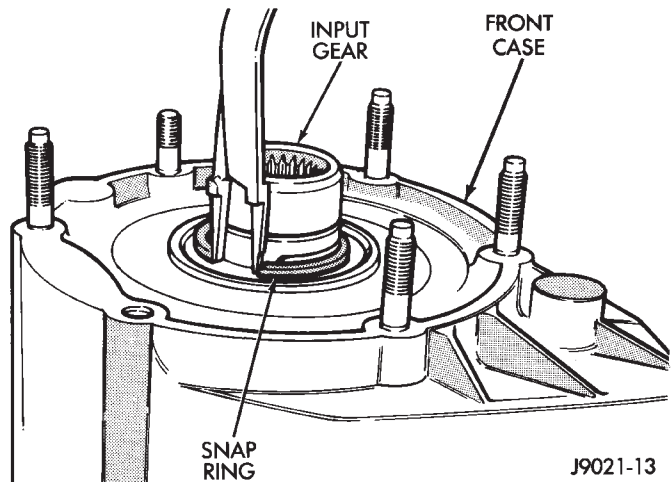

Fig. 24 Removing Input Gear Snap Ring
(34) Remove input gear snap ring (Fig. 24).